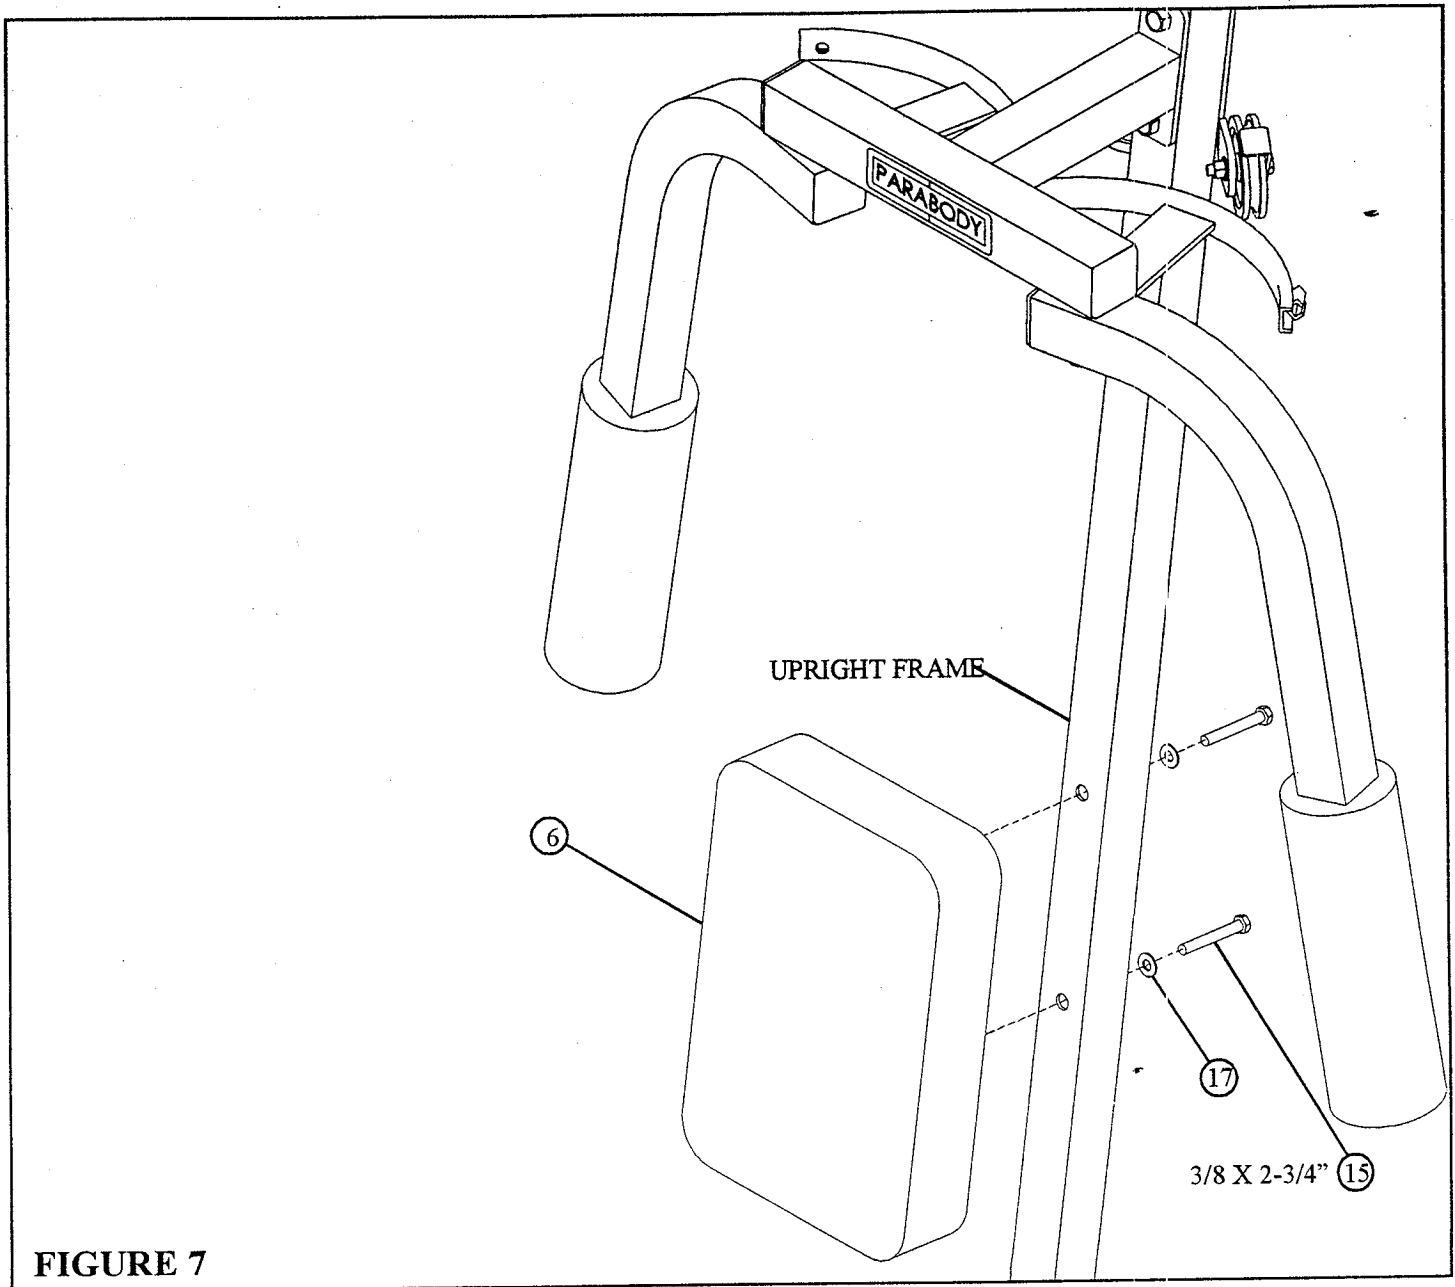

**FIGURE 6**
- Assemble the LEFT & RIGHT PEC DEC ARMS (2 & 3) to the BEARING HOUSING (1) using four 3/4" FLANGE BEARINGS (21), two 1/2" WASHERS (19), and two 1/2" LOW HEIGHT LOCK NUTS (22) as shown in FIGURE 6. (Tighten connection securely, then back nut off 1/8 turn or until arm rotates freely.)